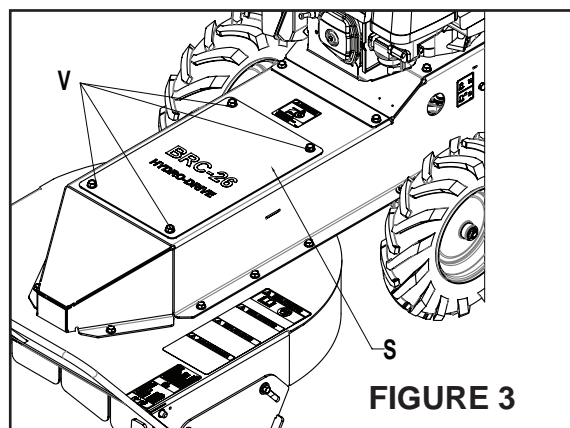

FIGURE 3
2. Remove the four bolts **V** holding the blade belt cover **S** on. (Figure 3)